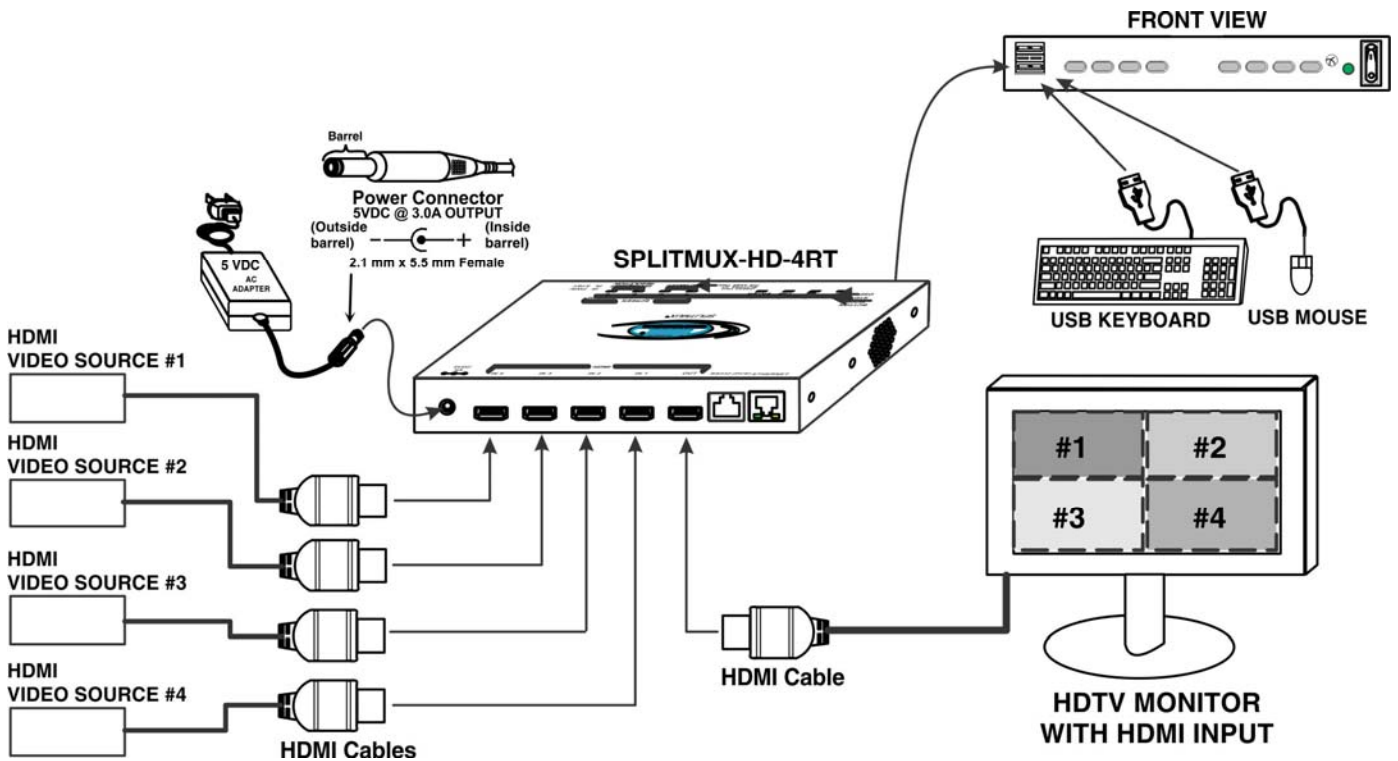

Figure 9- Video Source/Display Connections
4. Press the switch on the front to power the SPLITMUX ON. In approximately 20 seconds the LED will change from red to green (ON). Within 20 more seconds the SPLITMUX will be ready to use.
5. For keyboard control of the OSD menu of the SPLITMUX, connect a USB keyboard to the USB type A ports labeled "KYBD/MOUSE" on the SPLITMUX. On models supporting transparent USB device connection (SPLITMUX-USBHD-4RT), the keyboard and mouse (if connected) attached to these ports will also control the keyboard and mouse functions on any connected PC. (See Figure 9)